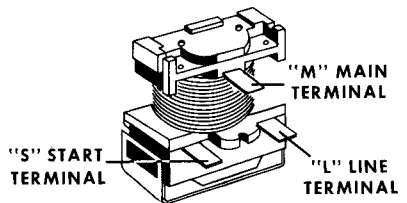

Figure 22 - Relay
1. With relay in normal position (arrow up) check continuity between main terminal "M" and line terminal "L". Figure 22. If there is continuity, the coil is good.
2. If coil is good, turn relay over and check continuity between start terminal "S" and line terminal "L". Figure 22. If there is continuity, the coil is good.